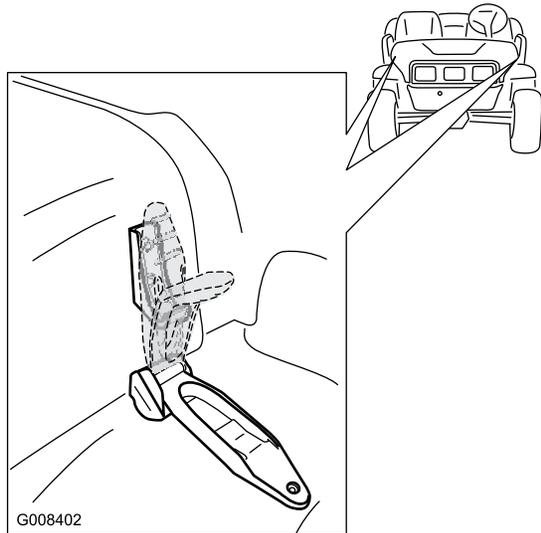

Figure 26
1. Lift up the handle of the rubber latches at each side of the hood (Figure 26).
2. Secure the hood by aligning the rubber latches onto the latch anchors at each side of the hood (Figure 26).